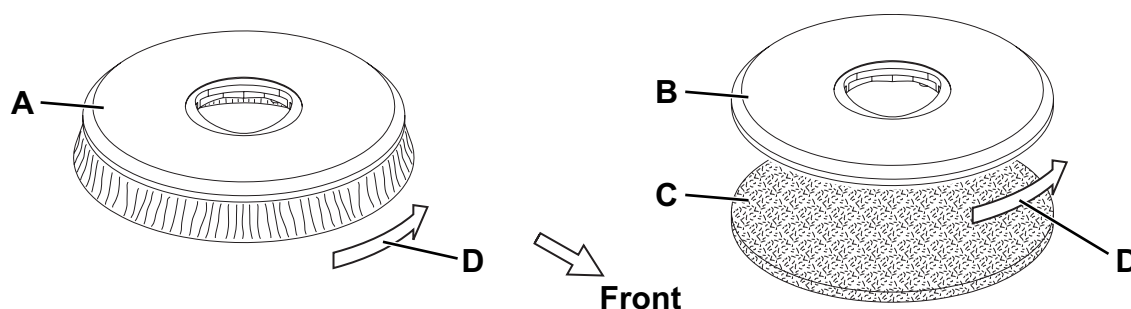

Figure 1
Install either the brush (A, Fig. 1) or the pad-holder (B and C) according to the type of floor to be cleaned.
1. Lift the brush/pad-holder deck (12) using the handlebar (1).
2. Place the brush (A, Fig. 1) or the pad-holder (B and C) under the deck (12).
3. Lower the deck (12) by using the handlebar (1).
4. Turn the knob (32) on one of the indicated programs.
5. Press the enabling push-button (39) together with the brush levers (40) to engage the brush/pad-holder.
6. Switch off the machine by turning the knob (32) to "0".
7. Lift the machine deck using the handlebar (1), then manually release the brush/pad-holder from the hub, by turning it abruptly in its normal rotation direction (D, Fig. 1).